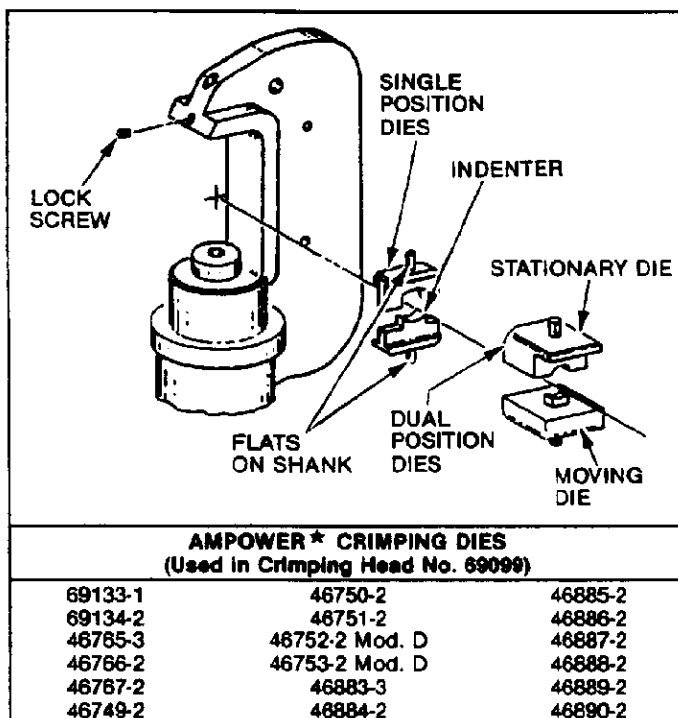
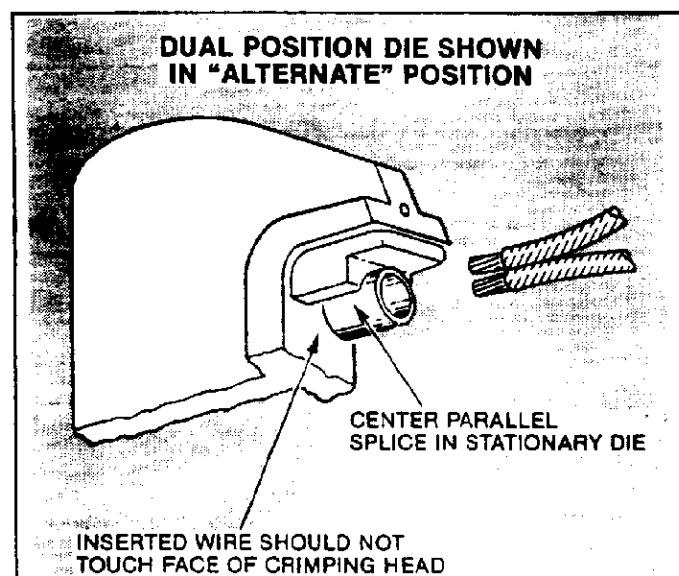

Fig. I-1
Fig. I-4
This instruction sheet (IS) covers application and maintenance procedures for the AMPOWER crimping dies listed in Figure I-1.
The AMPOWER die assemblies listed in Figure I-1 are used to crimp AMPOWER terminals and splices of the wire sizes indicated in Figure I-2.
‡ NON-REVERSIBLE DIES. ALWAYS INSTALL INDENTER IN RAM. SEE FIGURE I-1.
2. Loosen lock screw in top of crimping head. See Figure I-1.
Ensure that dies are inserted FULLY and that flats on shanks are facing lock screws. See Figure I-1.
Typical single and dual position die sets are shown in normal crimping position in Figure I-1. The dual position dies are used in alternate position only for parallel splice applications as shown in Figure I-4.
When "alternate" position of dual position dies is being used to crimp parallel splices, ensure that the end of the inserted wire does not touch or bind against face of crimping head. See Figure I-4.